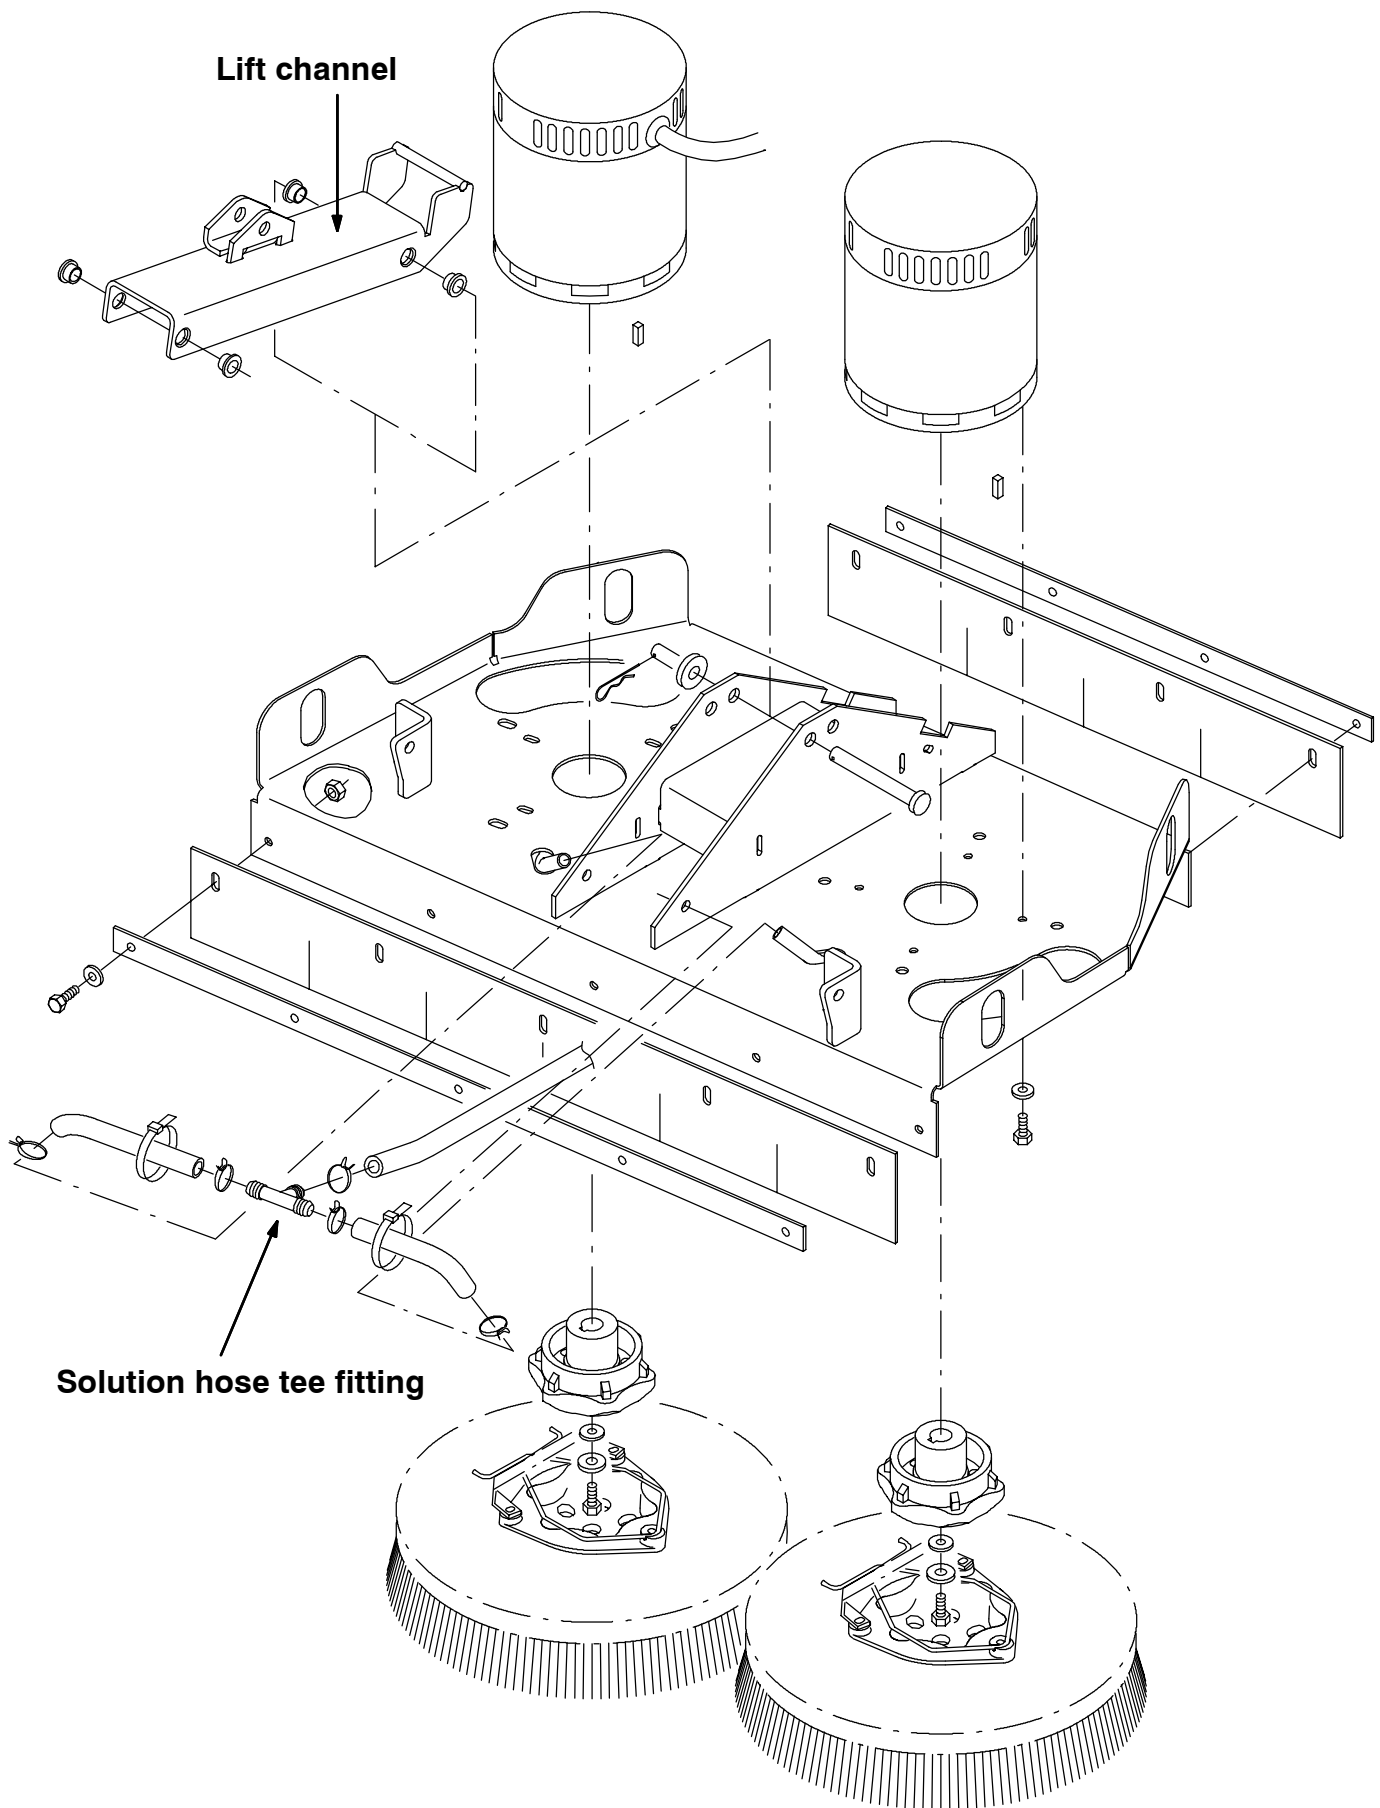

FIG. 2 - Disk Scrub Head Group
(Refer to FIG. 2)
4. Disconnect the solution hose from the plastic tee fitting on the scrub head. (Refer to FIG. 2)